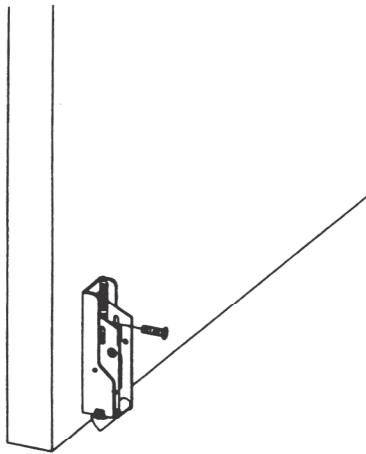

Figure 3
1. Mount bottom latch assembly into mounting bracket. (See Fig. 3.)